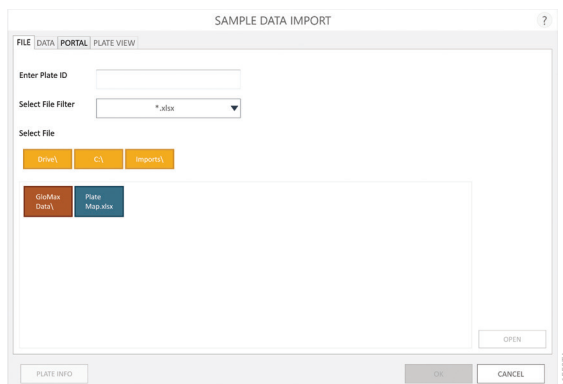

Figure 38. ‘Sample Data Import’ screen. First screen shown when importing a plate map into the GloMax[®] Software.
3. Tap the **Import** button located on the right side of the 'Protocol-specific' screen (Figure 37) to display the 'Sample Data Import' screen (Figure 38).